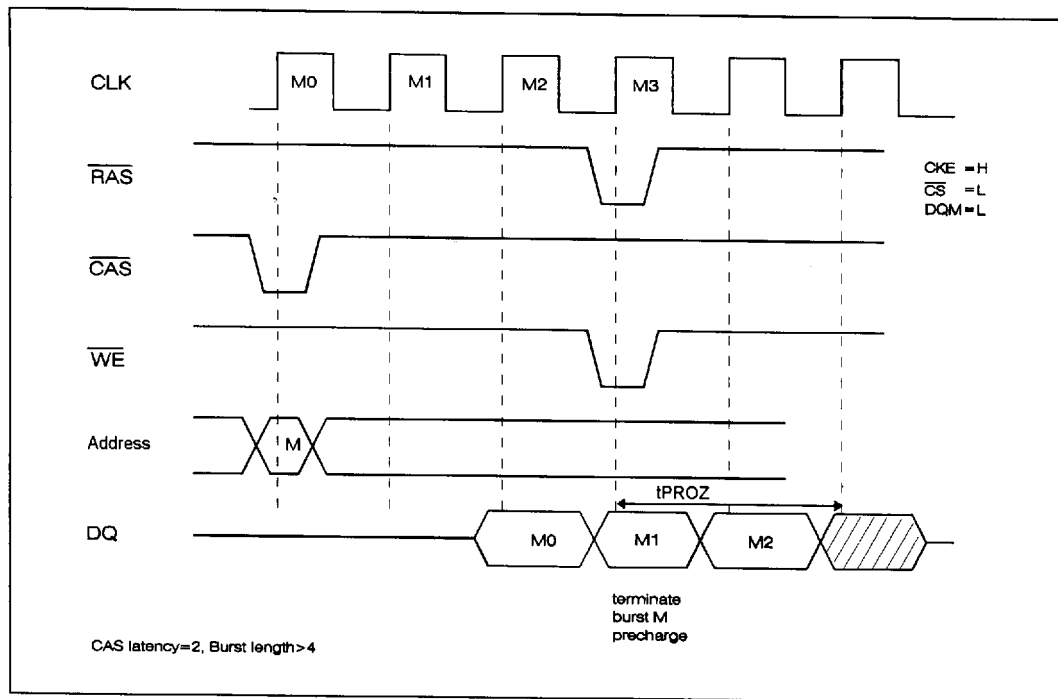

Figure 9 . Timing of precharge command with read burst in progress.
- Issue a precharge command(for only the selected bank or for both banks, depending on the logic level of A10), terminate the burst, and return to the idle state after the precharge interval. Like the terminate burst command, the last data read out is that associated with burst address during the precharge command cycle. The major difference between a precharge command and a burst terminate command is that the burst terminate command returns the bank to its row active state while the precharge command returns the bank to its idle state after the designated precharge interval. The timing and control for the precharge cycle is shown in Figure 9 for the case where $\overline{\text{CAS}}$ latency is two and burst length is greater than four. Like the burst terminate the last data read out is the subject of controversy and needs clarification from customers whether or not the data stream should end one cycle earlier.